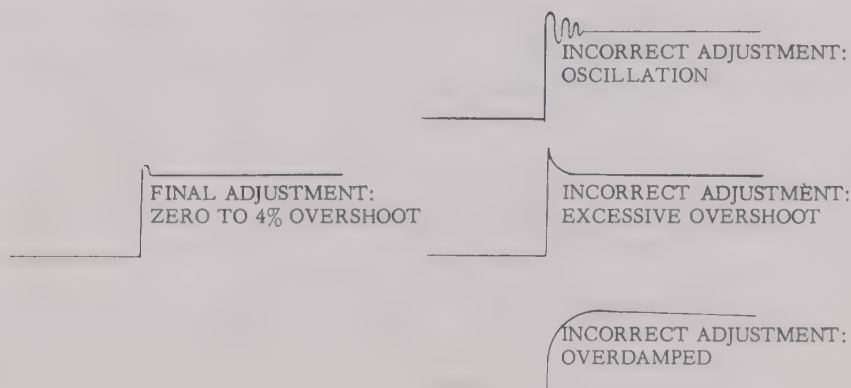

Figure 15
- i. With paper speed at 20 mm./second and stylus heat adjusted for good definition, throw the lever from ZERO to CAL and back. The trace should rise smoothly to its final amplitude and should not overshoot more than 4% (0.8 mm) if at all. (See Figure 15).